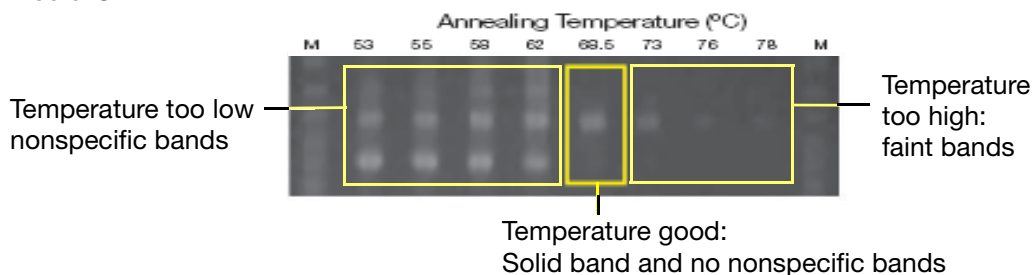

Figure 92. The effect on annealing temperature on the outcome of a PCR run.
3. Choose a high annealing temperature from the results of the gradient PCR run to reduce the chance of nonspecific primer binding. See step 2, above, for details on creating a gradient. In Figure 92, the gradient range is 53–78°C and the best annealing occurs at 68.5°C.